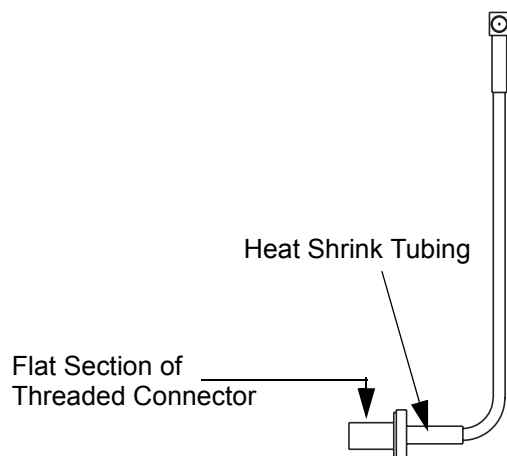

Figure 5-47 Bend in the GPS Antenna Connector
- a. Add a gradual 90 degree bend in the cable of the GPS antenna connector. The bend should be in the same direction as the flat section of the threaded connector and should be after the heat shrink tubing. Refer to Figure 5-47.